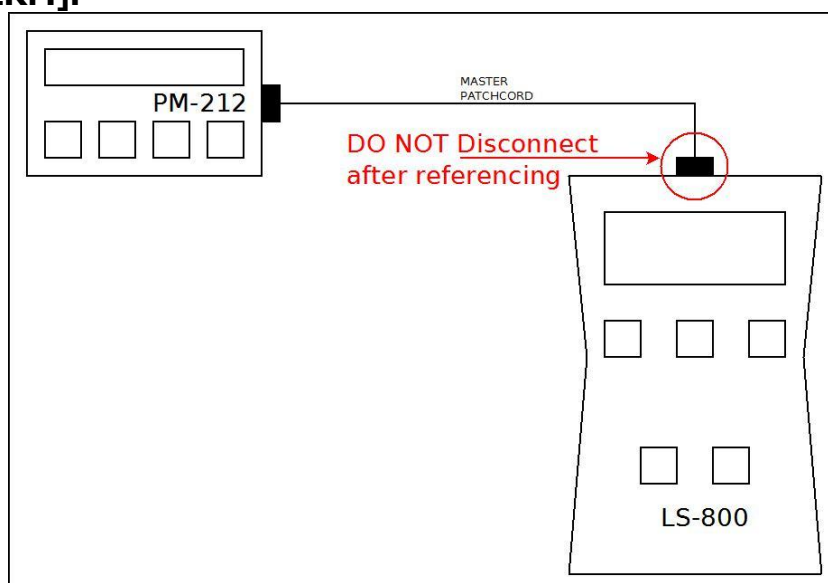

Figure 7: Setting reference by method 7
2. Connect the second end of the master cord to the light source (LS-800, figure 7).